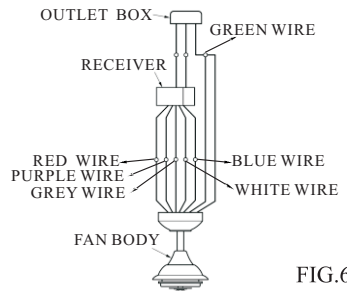

FIG.6
3. Install the safety cable into the building structure. (see Fig.6)
2. Connect the red wire from receiver to the red wire from fan with wire nut. Connect the purple wire from receiver to the purple wire from fan with wire nut. Connect the blue wire from receiver to the blue wire from fan with wire nut. Connect the grey wire from receiver to the grey wire from fan with wire nut. Connect the white wire from receiver to the white wire from fan with wire nut. Connect the green wire from ceiling, and green wire from hanger bracket with green wire from downrod ball with wire nut. (see Fig.6)